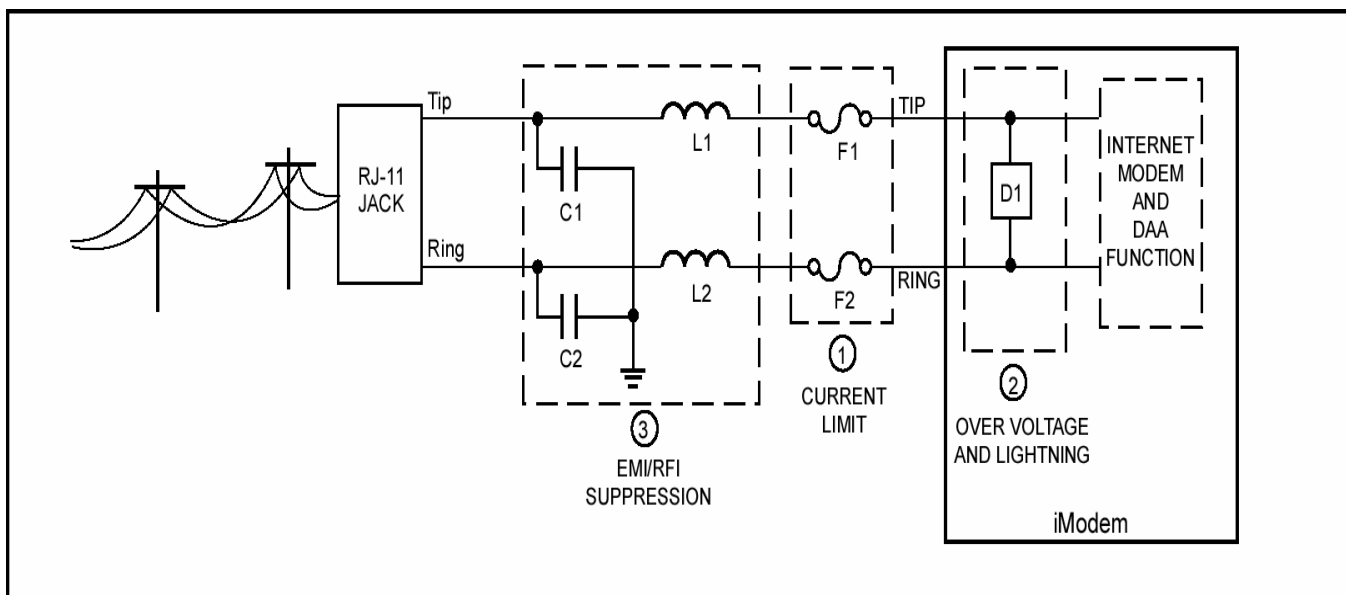

Figure 3. PSTN Line Interface for all iNet Appliance Products.
Pins 1 and 2 function as both input and output connections to the PSTN. To maximize field reliability in hostile environments, to ensure UL compliance, and also optionally for FCC part 15 compliance, these two pins may be routed through an external network such as that briefly described in figure 3 or as described in more detail in Cermetek Application Note # 126, Supplemental PSTN Line Protection.
5. No additional circuitry other than that shown in Figure 3 may be connected between the iModem module and the RJ-11C jack. Doing so will invalidate the conveyed FCC approval.
- A. Surge Protection is provided by internal circuitry (see Figure 3). No additional external components are required to maintain conveyed FCC Part 68 approval.